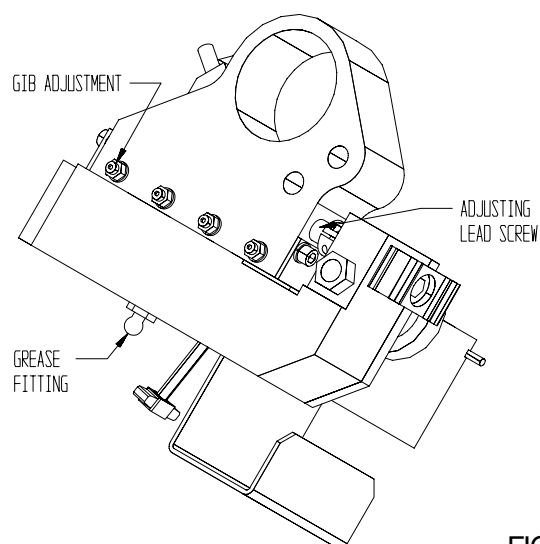

FIG. 8
4. Check the gib adjustment on the grinding wheel diameter adjustment every 3 months. See FIG.8.